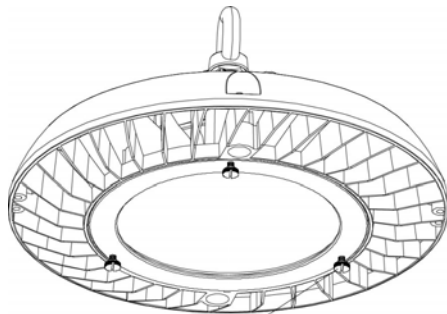

Figure 1
2.1 Loosen reflector/grid screws on face of JEBL fixture to allow Reflector key hole slots to be placed onto screws (see Figure 1).